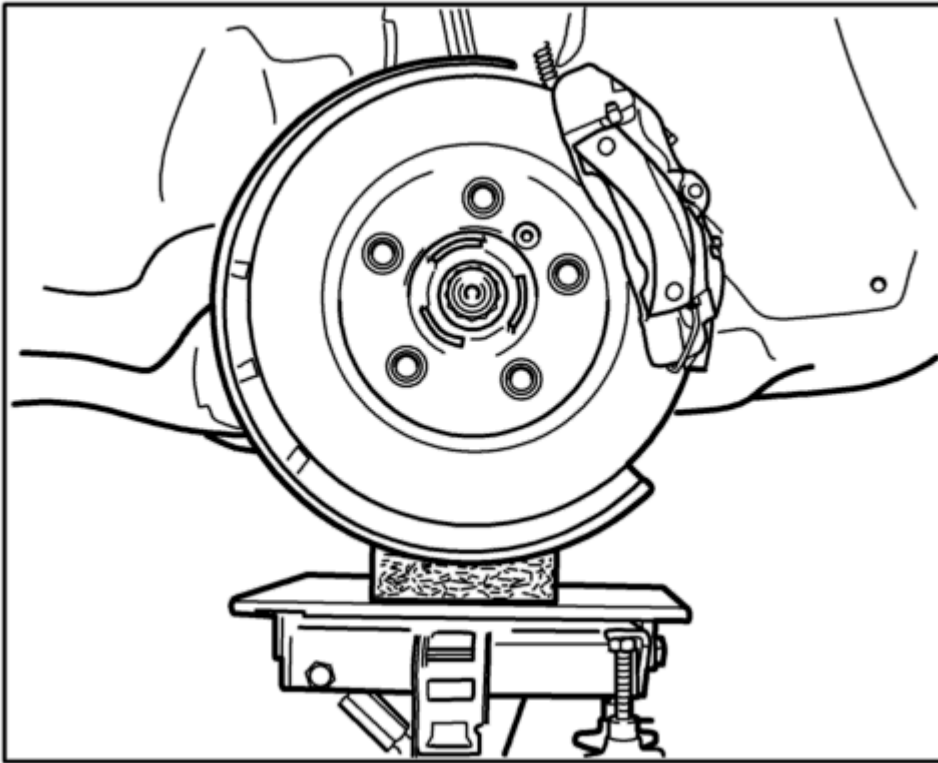

Fig. 82: Supporting wheel with rubber based lift (prevent slipping)
2. Lift wheel carrier carefully to facilitate removal. Use a suitable lift with rubber base in order to prevent slipping. See **Fig. 82**.